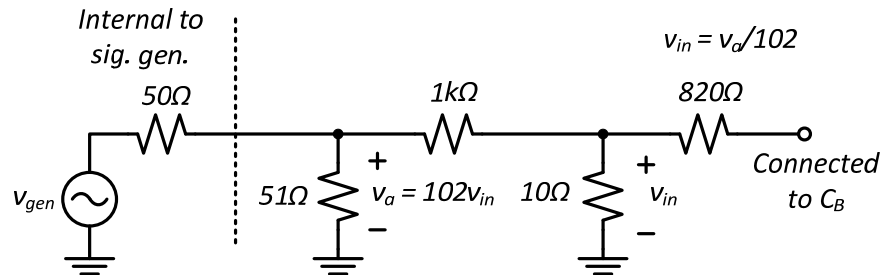

Figure 2. Attenuator circuit with 830Ω source impedance.
L4.1 Build the amplifier. Be careful with polarities of electrolytic capacitors. It will help to add a large decoupling capacitor between V_{DD} and ground of $> 10\mu F$. Use the input stage shown in Figure 2 between the signal generator and your circuit as a 101x attenuator with a source impedance of 830Ω. Note that the attenuation is with respect
- L4.2** Apply an input sine wave to your complete circuit through the attenuator in Figure 2 and measure the gain as a function of frequency. The amplitude of the input sine wave should be set to result in an output peak-peak voltage of around 200mV in the midband. Choose a set of frequencies to measure the lower cutoff frequency, mid-band gain and upper cutoff frequency of your amplifier. Record these gains and frequencies in your lab report. Record the exact lower and upper cutoff frequencies (3dB down points), as well as the midband gain. Also measure the power dissipation of the circuit. Show the working circuit to the GSI to get checked off.